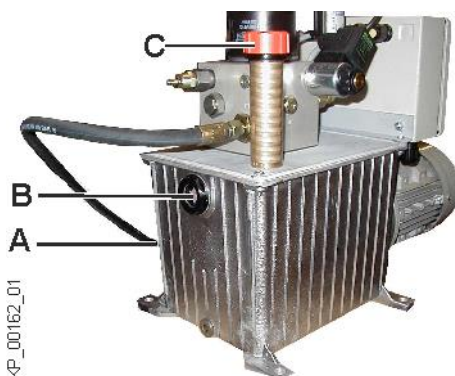

Fig. 25: Filling hydraulic oil
- Fill in hydraulic oil via the cap of the return filter (Fig. 25/C) up to the maximum mark at the inspection glass (Fig. 25/B):